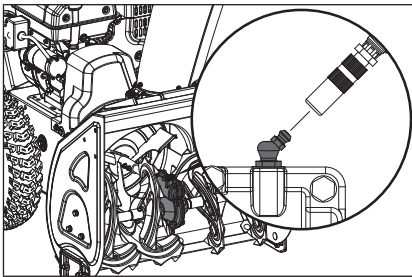

Figure 95
4. Attach grease gun to zerk fitting. (Fig. 95)